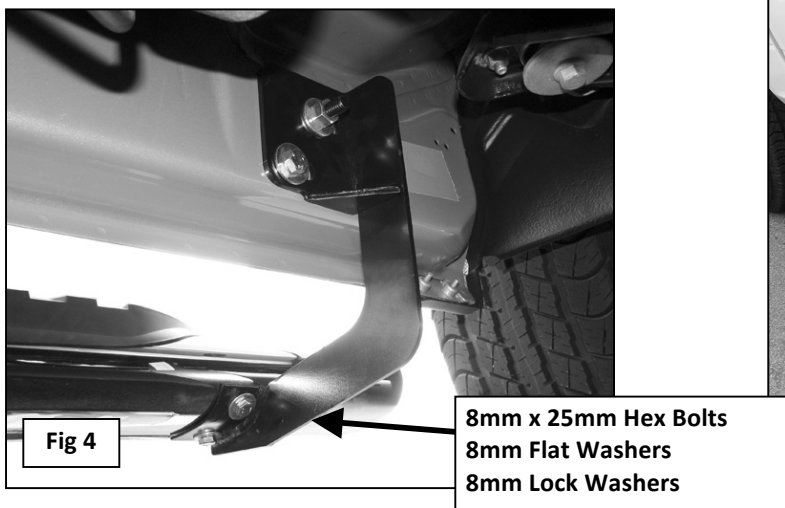

Fig 4
- Once all of the driver side Brackets have been installed, carefully position the driver Sidebar onto the (3) Mounting Brackets. Attach the Sidebar to the cradles on the Mounting Brackets with the included (6) 8mm x 25mm Hex Bolts, (6) 8mm Lock Washers, and (6) 8mm Flat Washers, (**Figure 4**). Do not tighten hardware at this time. **IMPORTANT:** If you are having any difficulty with installation, check Mounting Bracket location first. Use the illustration on **Page 1** to identify the Mounting Brackets.